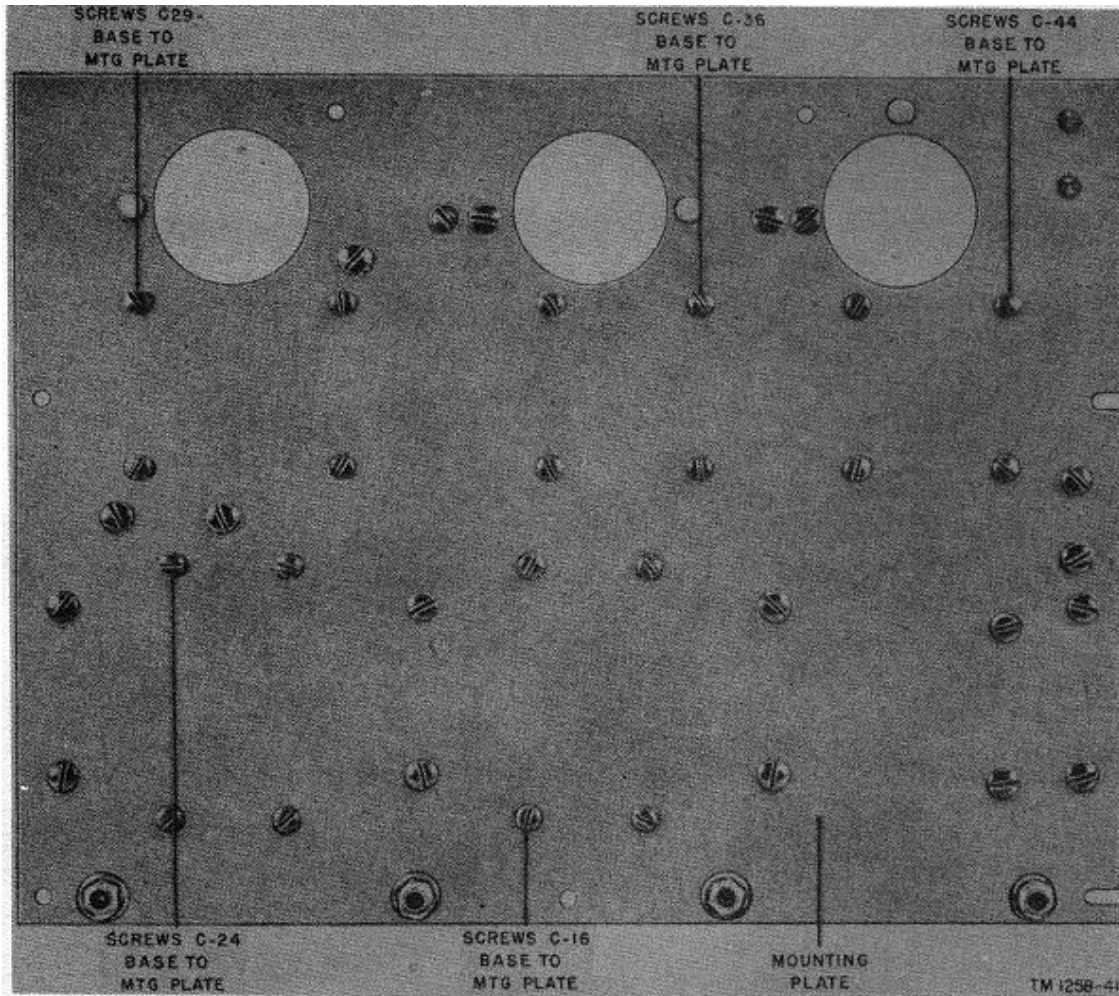

Figure 23. Mounting plate.
- (3) Remove the four screws that secure the base of the assembly to its mounting plate (fig. 23).
- (4) Remove the C16 capacitor assembly.
- (4) Remove the assembly.
- (4) Remove the seven screws (fig. 23) which hold the capacitor in place.
- (5) Remove the assembly.
- (3) Remove the eight screws which secure C29 (fig. 23).
- (4) Remove the seven screws which hold capacitor C36 in place (fig. 23) and remove the capacitor.